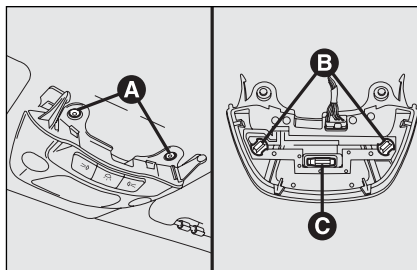

fig. 45
- ☐ slacken the 2 fastening screws **A**-fig. 45, then turn the 2 bulb holders **B** counterclockwise, remove the bulbs and replace them. To replace bulb **C**, release it from the side contacts making sure that the new bulb is correctly clamped between the contacts.